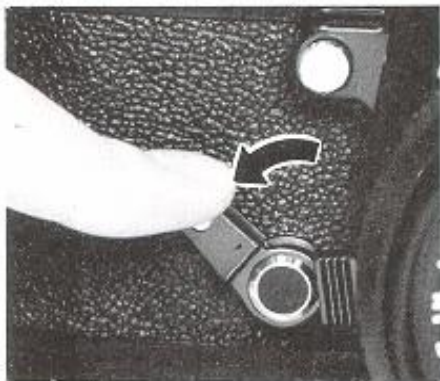

Fig. 36
1. First, advance Film Advance Lever (13).
2. Merely move Self-timer Lever (17) counterclockwise (**Fig. 36**). According to the degree you have moved it down, you can adjust the operating time. For the maximum delay, move it until it stops.
3. Press Shutter Release Button (11) to start the self-timer moving.